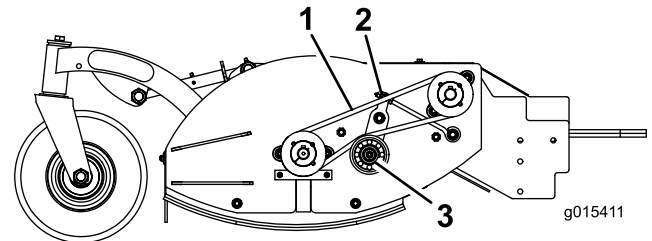

Figure 10
Visually inspect the belt (Figure 10), looking for dirt, wear, cracks, and signs of overheating. If belt is excessively worn or shows any signs of damage, replace the belt.
To replace the belt, complete the following procedure, referring to Figure 10 throughout:
The proper mower belt tension is 4.5 lb (2 kg) of force to deflect the belt 1/2 inch (13 mm) at the midpoint of the longest span (Figure 10).
- A. Loosen the locknut (Figure 10)